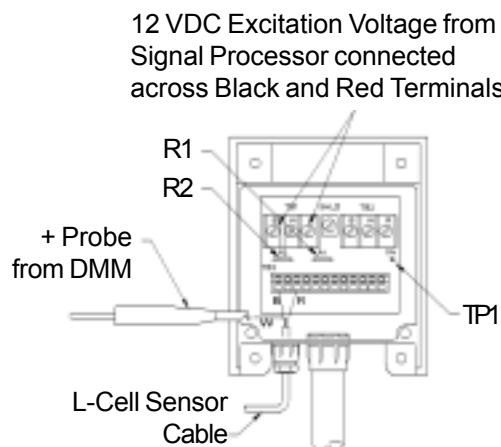

Figure G-2. Using DMM to Monitor Voltage Output
1. See Figure G-2. Connect the red wire from the L-Cell cable to the R terminal on terminal block TB3 in the junction box. Connect the black wire to the B terminal on TB3.